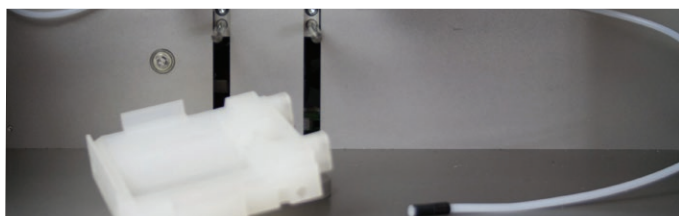

Figure 35. Removing the extraction waste collector. In this image, the carousel has been removed, which is not required.
7. Unscrew the waste tube connected on the right side of the extraction waste collector; see Figure 35.